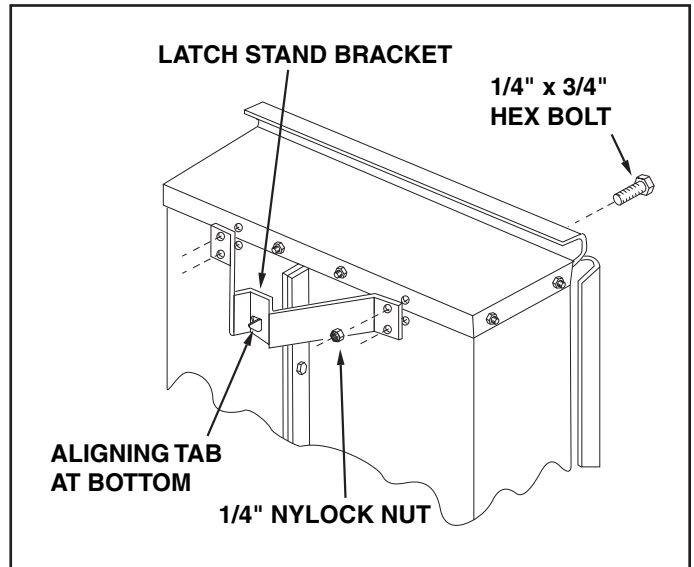

FIGURE 7
11. Turn the latch stand bracket so that the aligning tab is at the rear (bottom) of the bracket. Assemble the latch stand bracket to the cart using four $1/4" \times 3/4"$ hex bolts and $1/4"$ nylock nuts. **TIGHTEN**. See figure 7.